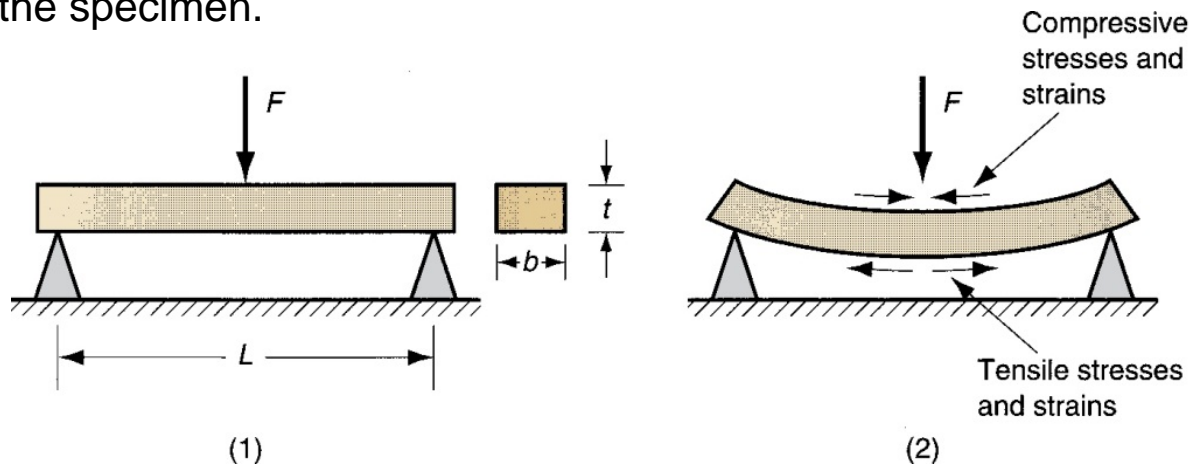

Fig. 16: Bending test setup and specimen: (1) initial loading, and (2) highly stressed and strained specimen
- Bending operations: used to form metal plates and sheets (Fig. 16; showing the setup of the bending test). Bending results in two stress (and strain) components; tensile in the outer half of the bent section and compressive in the inner half.
$$TRS = \frac{1.5FL}{bt^2} \quad \text{where } TRS \text{ is in MPa, } F: \text{ the applied load at fracture in N, } L: \text{ the length between supports and } b \text{ and } t \text{ are dimensions of the cross-section in mm (Fig. 16)}$$